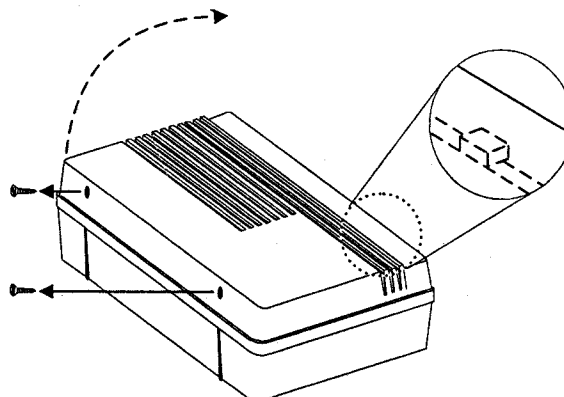

Figure 3.11. Removing the Cover
- If you use the two screw terminals to connect a Hardware Exterior Siren (see Figure 3.11), use only ITI model 13-046 siren. These terminals provide 6 volts DC and 100 mA maximum current and activate only the POLICE and FIRE alarm sounds.